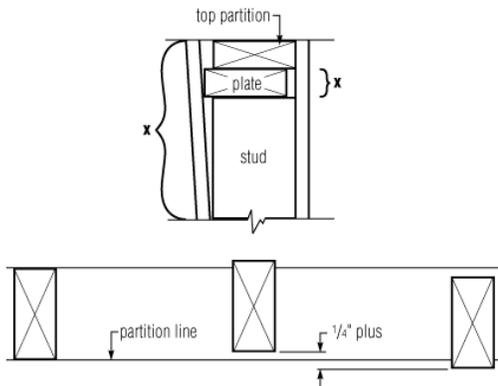

Fig. 2
**Cause:** Due to misaligned top plate and stud, hammering at points “X” (Fig. 2) as panels are applied on both sides of partition will probably result in nail heads puncturing paper or cracking board. Framing members more than 1/4” out of alignment with adjacent members makes it difficult to bring panels into firm contact with all nailing surfaces.